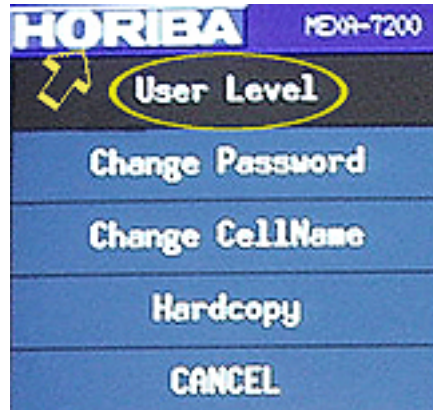

Figure 54
- 166 On the title bar, click on the Horiba logo button. See the arrow in Figure 54. Select “User Level” from the menu. See the circle in Figure 54.